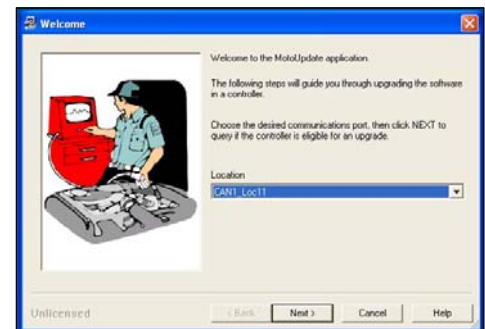

Figure 8 — Welcome Window
2. A Welcome window will open to begin the update process (refer to Figure 8).